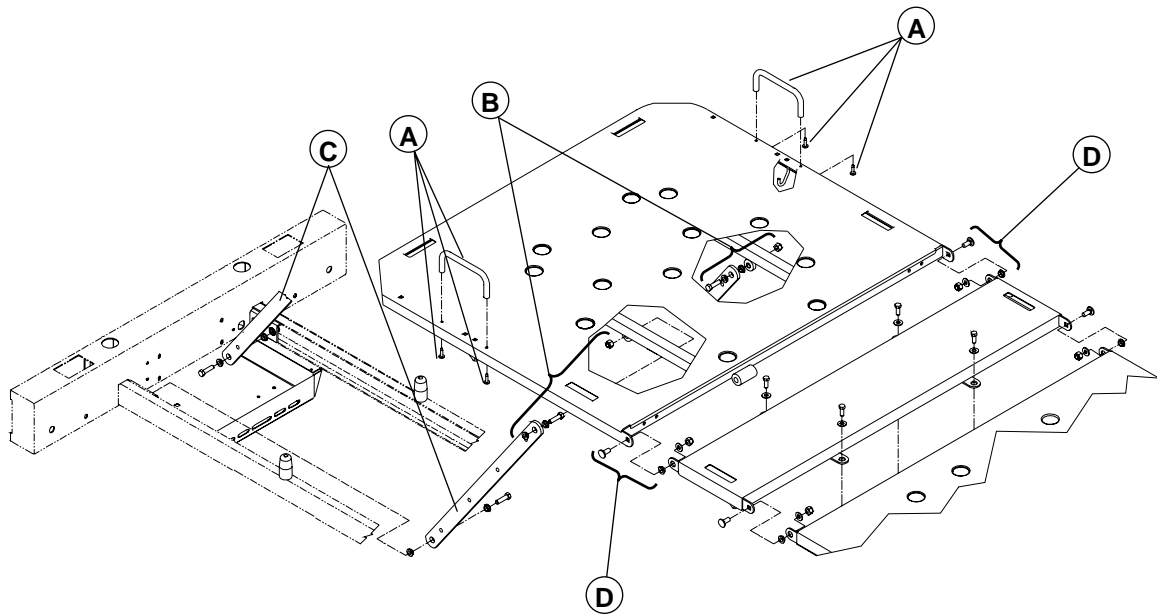

Figure 4.9D
10. Using a 1/2" wrench, remove the locknut/spacer/bolt (E) holding the upper part of the compression bar to the head section and lay it down.
11. Using a 1/2" wrench, remove the locknut/shoulder spacers/bolt (F) linking the mattress support lever to the head section and remove the compression bar.
13. Using a 1/2" wrench, remove the two locknuts/flat washers/shoulder spacers/bolts (D, fig. 4.9D, page 47) linking the head section to the seat section. Remove the defective head section.
16. Using a 7/16" wrench, remove two locknuts/bolts (E) holding both release handles to the head section.
17. Remove the pressure cable clip (F) from the head section.
18. Disconnect the two wires (G) from the micro switch. Note the wire connecting positions.
19. Using a 1/2" wrench, remove the locknut/bolt (H) holding the upper part of the pneumatic cylinder activation mechanism.
20. Using a 1/2" wrench, remove the locknut/shoulder spacers/bolts (J) linking the mattress support lever to the head section.
22. Using a 1/2" wrench, remove the two locknuts/flat washers/shoulder spacers/bolts (D, fig. 4.9D, page 47) linking the head section to the seat section. Remove the defective head section.